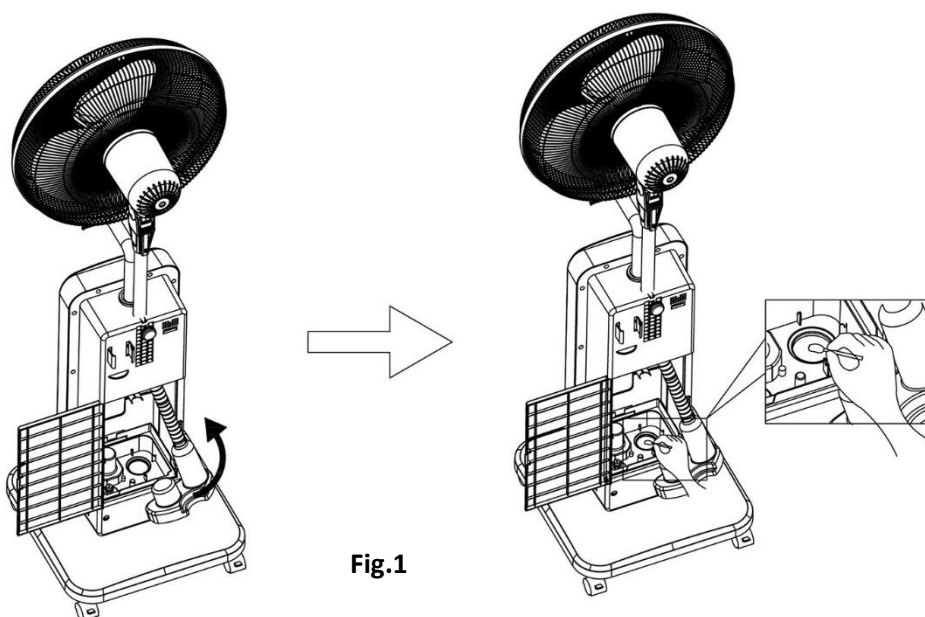

Fig.1
4. Please wipe the ultrasonic vibrator gently with cotton swab after dabbed with detergent. (Fig.1)